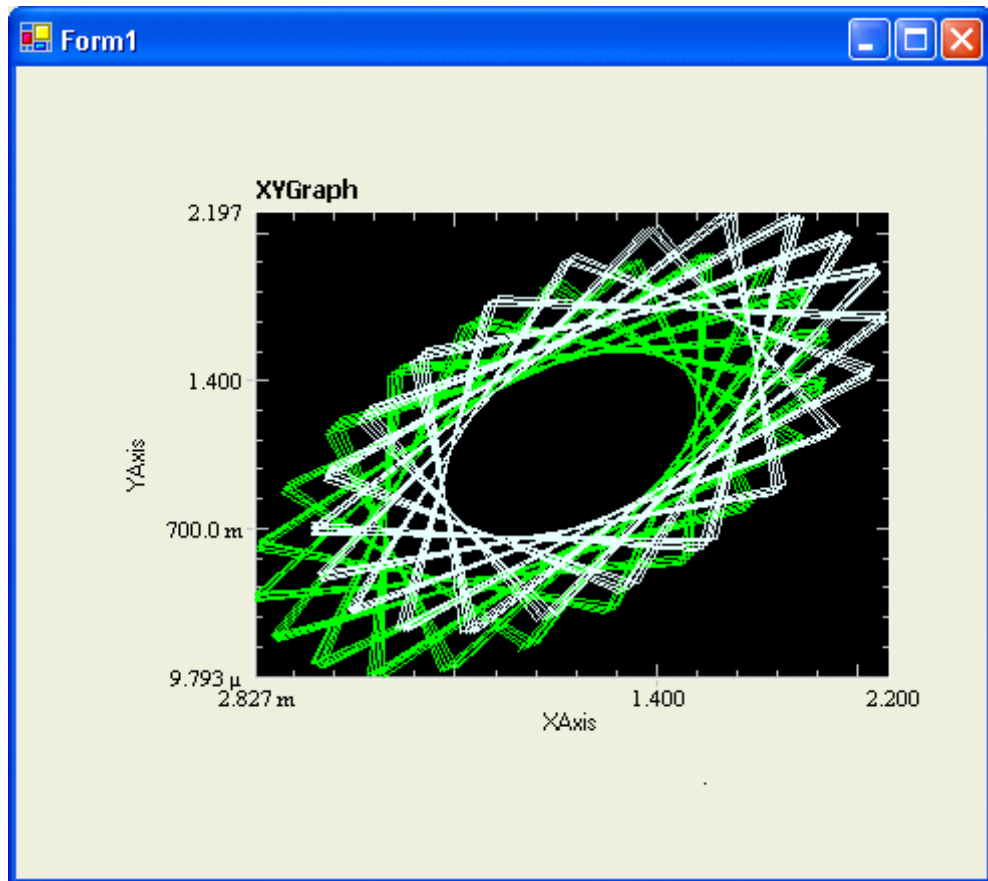

Figure 23 XY Graph
The XY Graph displays traces fed by dual-channel data (X and Y data) which can be arbitrarily or functionally related to each other. In Figure 23, there are two traces. Each trace consists of a one-dimensional array of X,Y pairs. The XY Graph also accepts two-dimensional arrays.
- 5 Run the application and double-click the button to see a graph similar to the one in Figure 23.